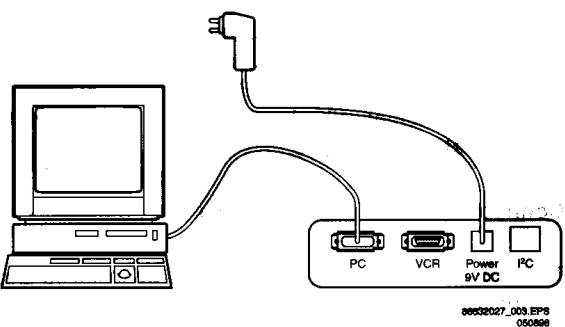

Figure 5-8
7. Connect the interface cable (4822 727 21641) to the connector on the rear side of the ComPair interface that is marked "I2C" (See Figure 5.8)